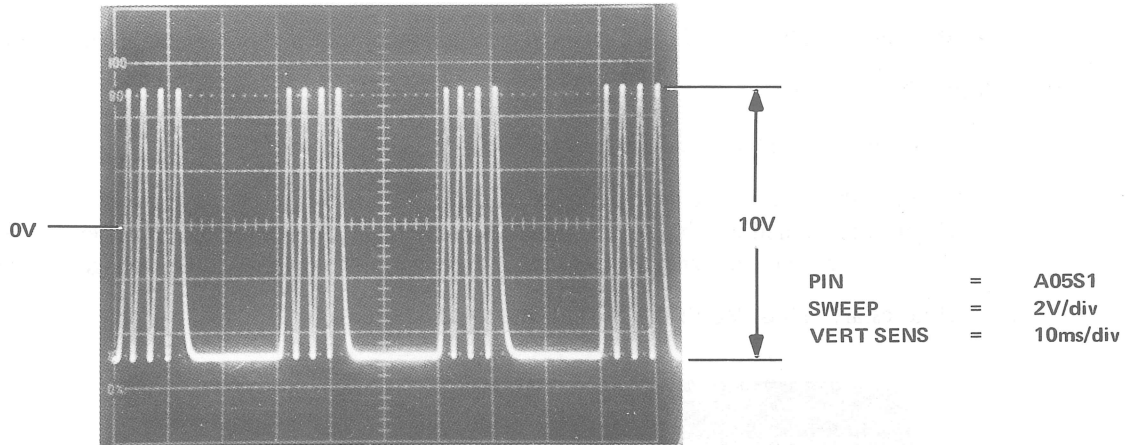

Figure 5-12 Cosine Amplitude/Offset Waveform
- Observe A05S1 (COS POSITION) for a scope display as illustrated in Figure 5-12. The waveform amplitude must be $10 \pm 1\text{V}$ p-p and symmetrical about ground.